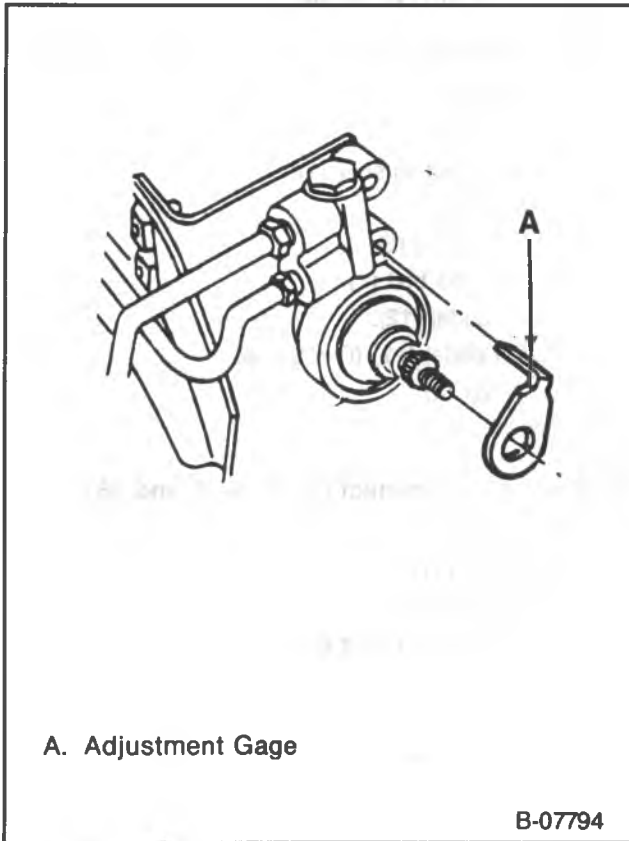

Figure 12 — Installing Adjustment Gage
5. Rotate the valve shaft to permit the installation of the adjustment gage (figure 12).